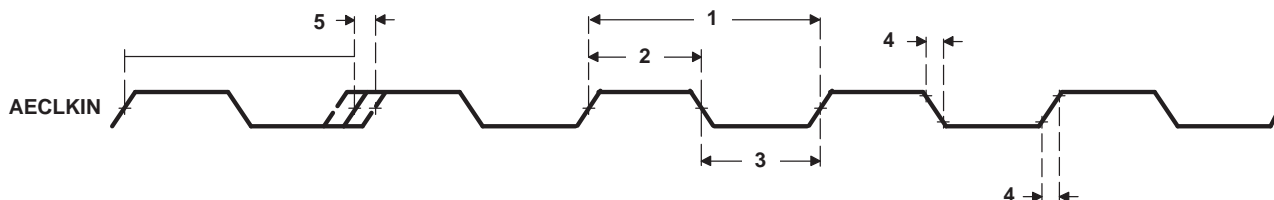

Figure 5-14. AECLKIN Timing for EMIFA
Table 5-18. Timing Requirements for AECLKIN for EMIFA^{(1) (2) (3)} (see Figure 5-14)